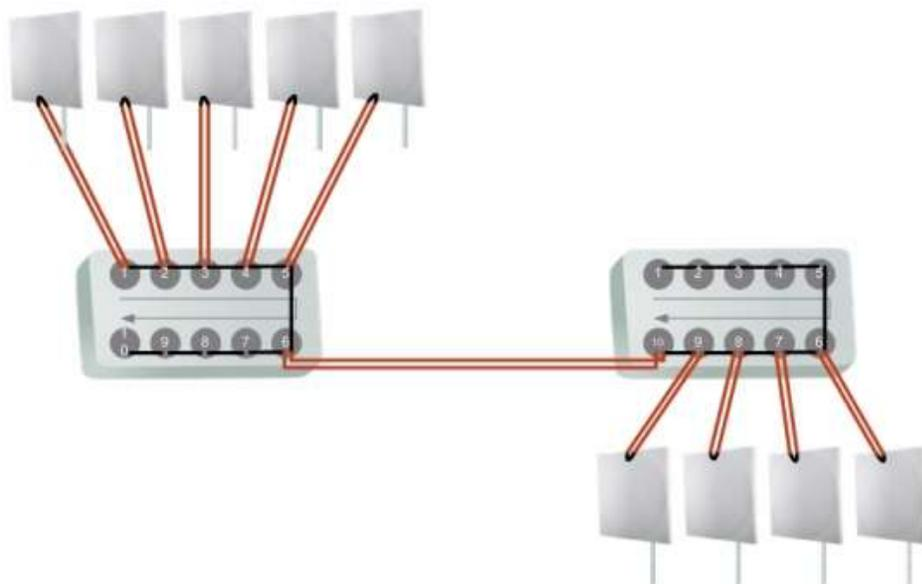

Figure G-7. Cascading Two HSS Units
2. The next available SYNC port of the first HSS unit should be connected to SYNC 10 of the second HSS unit as shown in Figure G-7. In the illustration, the next available port on the first HSS unit is SYNC 6.
3. The second HSS unit may be filled out with up to nine more ODUs in **reverse** order. That is, connect SYNC 9, SYNC 8, SYNC 7... as shown in Figure G-7.
4. To add a further HSS unit: Connect the next available SYNC port from the second HSS unit in **descending order** (SYNC 5 in Figure G-7) to SYNC 1 of the third HSS unit.
Two cascaded HSS units as shown in Figure G-7: